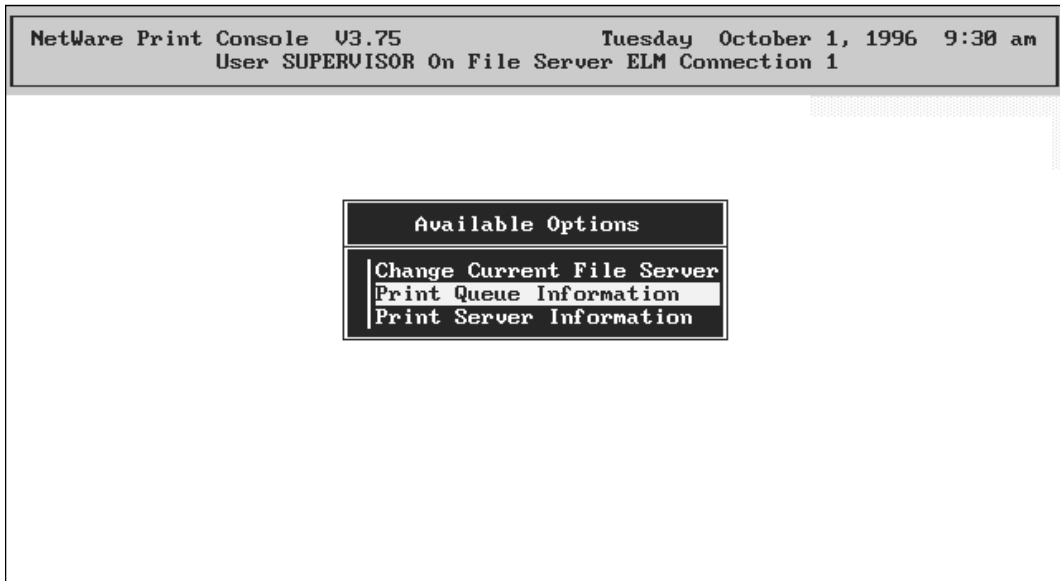

Figure 1. PCONSOLE's opening menu.
3. From the menu (*shown in figure 1*) choose **Print Queue Information**.